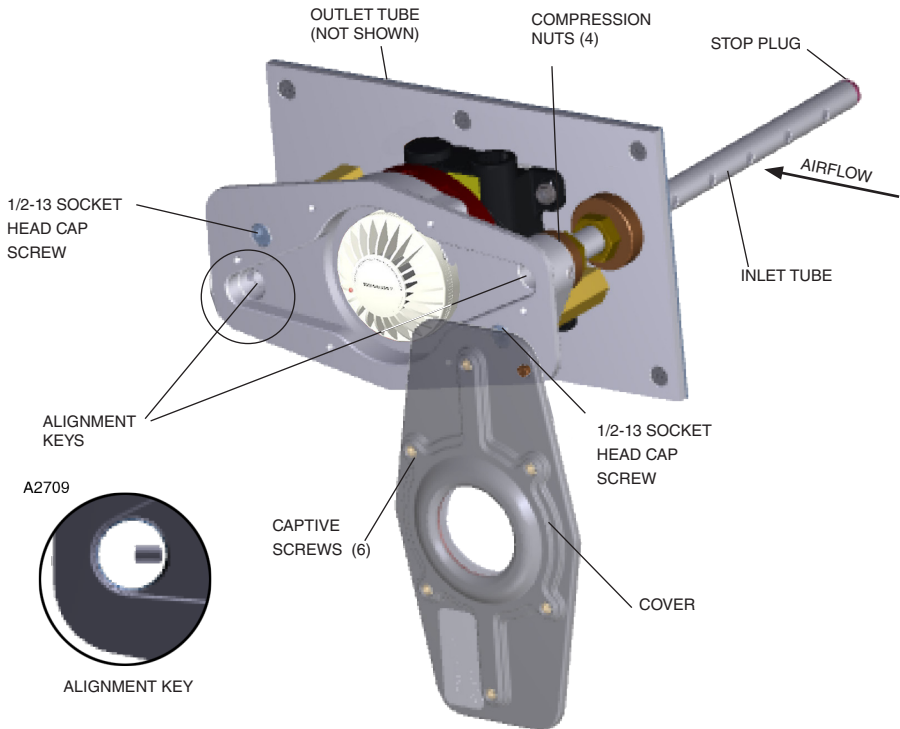

Figure 10—Q3013D Assembling front cover to plate assembly
2. Lift the cover from the base and swing it down to view the alignment keys for the inlet and outlet tubes, and to access the two socket head cap screws in the interior (Figure 10).